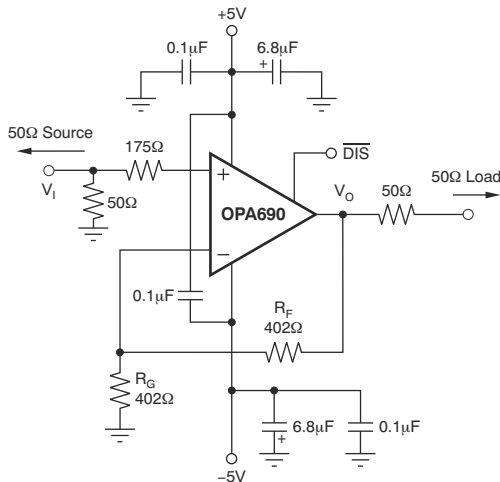
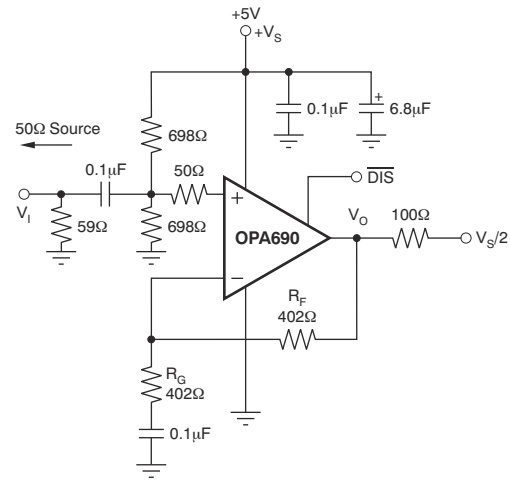

FIG 7-1. DC-Coupled,  $G = 2\text{ V/V}$ , Bipolar-Supply Specification and Test Circuit
FIG 7-2. AC-Coupled,  $G = 2\text{ V/V}$ , Single-Supply Specification and Test Circuit
at  $T_A = 25^\circ C$ ,  $G = 2$ ,  $R_F = 402\Omega$ , and  $R_L = 100\Omega$  (unless otherwise noted); see Figure 7-1 for ac performance only
at  $T_A = 25^\circ\text{C}$ ,  $G = 2$ ,  $R_F = 402\Omega$ , and  $R_L = 100\Omega$  (unless otherwise noted); see Figure 7-1 for ac performance only
at  $T_A = 25^\circ C$ ,  $G = 2$ ,  $R_F = 402\Omega$ , and  $R_L = 100\Omega$  (unless otherwise noted); see Figure 7-2 for ac performance only
Figure 7-1 shows the dc-coupled, gain of 2 V/V, dual power-supply circuit configuration used as the basis of the Section 6.11. For test purposes, the input impedance is set to 50  $\Omega$  with a resistor to ground and the output impedance is set to 50  $\Omega$  with a series output resistor. Voltage swings reported in the specifications are taken directly at the input and output pins, while output powers (dBm) are at the matched 50- $\Omega$  load. For the circuit of Figure 7-1, the total effective load is 100  $\Omega$  || 804  $\Omega$ . The disable control line is typically left open to maintain normal amplifier operation. An additional resistor (175  $\Omega$ ) is included in series with the noninverting input. Combined with the 25- $\Omega$  DC source resistance looking back towards the signal generator, this gives an input bias current canceling resistance that matches the 200- $\Omega$  source resistance seen at the inverting input (see Section 8.1.8). In addition to the usual power-supply decoupling capacitors to ground, a 0.1- $\mu$ F capacitor is included between the two power-supply pins. In practical printed-circuit board (PCB) layouts, this optional-added capacitor typically improves the 2nd-harmonic distortion performance.
Figure 7-2 shows the AC-coupled, gain of 2, single-supply circuit configuration which is the basis of the 5 V and Section 6.12. Although not a rail-to-rail design, the OPA690 requires minimal input and output voltage headroom compared to other very wideband voltage-feedback op amps. The device delivers a 3- $V_{PP}$  output swing on a single 5-V supply with > 120-MHz bandwidth. The key requirement of broadband single-supply operation is to maintain input and output signal swings within the useable voltage ranges at both the input and the output. The circuit of Figure 7-2 establishes an input midpoint bias using a simple resistive divider from the 5-V supply (two 698-
Voltage-feedback op amps exhibit decreasing closed-loop bandwidth as the signal gain is increased. In theory, this relationship is described by the gain bandwidth product (GBP) shown in セクション 6.5 and セクション 6.7. Ideally, dividing GBP by the noninverting signal gain (also called the noise gain, or NG) predicts the closed-loop bandwidth. In practice, this relationship only holds true when the phase margin approaches 90°, as in high-gain configurations. At low gains (increased feedback factors), most amplifiers exhibit a more complex response with lower phase margin. The OPA690 is compensated to give a slightly peaked response in a noninverting gain of 2 V/V (see 図 7-1). This compensation results in a typical gain of 2 bandwidth of 220 MHz, far exceeding that predicted by dividing the 300 MHz GBP by 2. Increasing the gain causes the phase margin to approach 90° and the bandwidth to more closely approach the predicted value of (GBP/NG). At a gain of 10, the 30-MHz bandwidth shown in the  $\pm 5$ -V *Electrical Characteristics* agrees with that predicted using the simple formula and the typical GBP of 300 MHz.
The frequency response in a gain of 2 V/V can be modified to achieve exceptional flatness by simply increasing the noise gain to 2.5. One method, without affecting the two signal gain, is to add an 804- $\Omega$  resistor across the two inputs in the circuit of 図 7-1. A similar technique can be used to reduce peaking in unity-gain (voltage-follower) applications. For example, by using a 402- $\Omega$  feedback resistor along with a 402- $\Omega$  resistor across the two op amp inputs, the voltage follower response is similar to the gain of 2 response of 図 7-2. Reduce the value of the resistor across the op amp inputs to further limit the frequency response due to increased noise gain.
The OPA690 is a general-purpose, wideband voltage-feedback op amp; therefore, all of the familiar op amp application circuits are available to the designer. Inverting operation is one of the more common requirements and offers several performance benefits. 図 8-1 shows a typical inverting configuration where the I/O impedances and signal gain from 図 7-1 are retained in an inverting circuit configuration.
The second major consideration, touched on in the previous paragraph, is that the signal source impedance becomes part of the noise gain equation and influences the bandwidth. For the example in 図 8-1, the  $R_M$  value combines in parallel with the external 50- $\Omega$  source impedance, yielding an effective driving impedance of 50  $\Omega$  || 67  $\Omega$  = 28.6  $\Omega$ . This impedance is added in series with  $R_G$  for calculating the noise gain (NG). The resultant NG is 2.8 for 図 8-1, as opposed to only 2 if  $R_M$  can be eliminated as discussed previously. Therefore, the bandwidth is slightly less for the circuit of 図 8-1 than for the gain of 2 circuit of 図 7-1.
A good practice is to target the parallel combination of  $R_F$  and  $R_G$  (see Figure 7-1) to be less than approximately 300  $\Omega$ . The combined impedance  $R_F \parallel R_G$  interacts with the inverting input capacitance, placing an additional pole in the feedback network, and thus, a zero in the forward response. Assuming a 2-pF total parasitic on the inverting node, holding  $R_F \parallel R_G < 300 \Omega$  keeps this pole greater than 250 MHz. Alone, this constraint implies that the feedback resistor  $R_F$  can increase to several k $\Omega$  at high gains. This result is acceptable as long as the pole formed by  $R_F$  and any parasitic capacitance appearing in parallel is kept out of the frequency range of interest.
The OPA690 provides good distortion performance into a 100- $\Omega$  load on  $\pm 5$ -V supplies. Relative to alternative solutions, this device provides exceptional performance into lighter loads, while operating on a single 5-V supply. Increasing the load impedance improves distortion directly. Remember that the total load includes the feedback network; in the noninverting configuration (see Figure 7-1), this total load is sum of  $R_F + R_G$ , while in the inverting configuration the total load is just  $R_F$ . Also, providing an additional supply-decoupling capacitor (0.1  $\mu$ F) between the supply pins (for bipolar operation) improves the 2nd-order distortion.
Evaluating these two equations for the OPA690 circuit and component values (see 図 7-1) gives a total output spot noise voltage of 12.3 nV/√Hz and a total equivalent input spot noise voltage of 6.1 nV/√Hz. This is including the noise added by the bias current cancellation resistor (175 Ω) on the noninverting input. This total input-referred spot noise voltage is only slightly higher than the 5.5-nV/√Hz specification for the op amp voltage noise alone. This is the case as long as the impedances appearing at each op amp input are limited to the previously recommend maximum value of 300 Ω. Keeping both  $(R_F \parallel R_G)$  and the noninverting input source impedance less than 300 Ω satisfies both noise and frequency response flatness considerations. Because the resistor-induced noise is relatively negligible, additional capacitive decoupling across the bias current cancellation resistor ( $R_B$ ) for the inverting op amp configuration of 図 8-1 is not required.
The balanced input stage of a wideband voltage-feedback op amp allows good output dc accuracy in a wide variety of applications. Although the high-speed input stage does require relatively high input bias current (typically  $\pm 8 \mu\text{A}$  at each input terminal), the close matching can be used to reduce the output dc error caused by this current. The total output offset voltage can be considerably reduced by matching the dc source resistances appearing at the two inputs. This matching reduces the output dc error due to the input bias currents to the offset current times the feedback resistor. Evaluating the configuration of Figure 7-1, and using worst-case  $25^\circ\text{C}$  input offset voltage and current specifications, gives a worst-case output offset voltage equal to:
As a worst-case example, compute the maximum  $T_J$  using an OPA690-DBV (6-pin SOT-23 package) in the circuit of 図 7-1 operating at the maximum specified ambient temperature of 85°C and driving a grounded 20-Ω load.